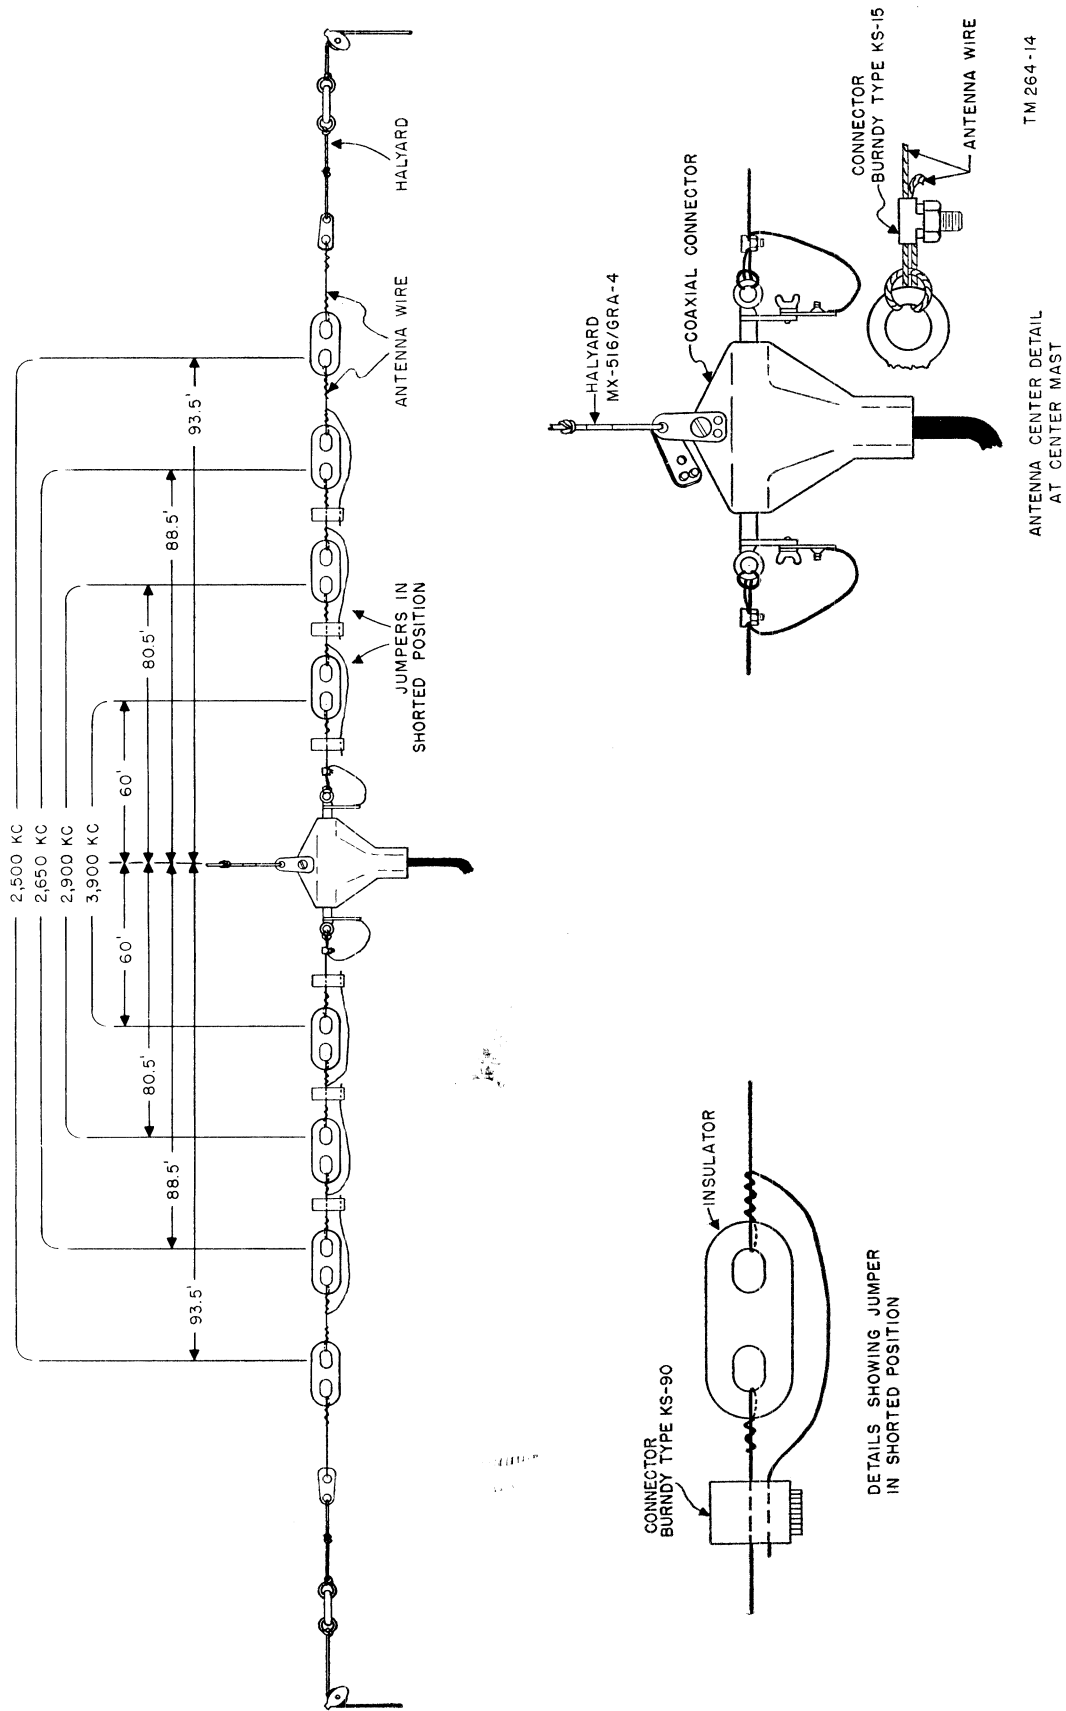

Figure 32. Construction of doublet antenna wire.
c. The antenna wire is made up of sections of Wire W-1 separated by strain insulators. The sections may be connected by jumpers which will allow preselection of various lengths for operation on different frequencies (fig. 32). Compute the lengths desired for the various antenna sections as follows:
- (3) The shortest length antenna must be constructed first. In the case of the above example, the shortest antenna is the 120-foot, 3,900-kc antenna.
- (4) Determine the length of a quarter-wave antenna for the shortest half-wave to be used. In this example a quarter-wave would be $\frac{120}{2} = 60$ feet. Attach one end of the antenna wire to the coaxial cable connector. Attach the other end of the antenna wire to an insulator; make sure that the distance from the center of the coaxial to the end fastened to the insulator is exactly 60 feet as shown in figure 32. Construct the other half of the half-wave antenna in a similar fashion, using the remaining terminal on the coaxial cable connector as a starting point.
- (5) Select the next shortest length of antenna desired, in this case the 161-foot, 2,900-kc antenna. Attach a piece of antenna wire to the unused end of the insulator of the 3,900-kc antenna already constructed. Allow a sufficient length of free wire here which can be used for a jumper connection. Follow the procedure already outlined to arrive at the proper length for a quarter-wave for 2,900 kc: $\frac{161}{2} = 80.5$ feet.
- (6) Each additional lower-frequency antenna is constructed by adding more wire to the antenna already formed. Each antenna length is calculated from the center of the coaxial connector to the end of the antenna being constructed.
- (7) After the various lengths have been determined and constructed, connect the correct jumpers in place as shown in figure 32. Each antenna selected will operate on the fundamental and odd harmonics of the frequency to which it is cut. In the example given in (2), (3), (4), and (5) above, the antenna will be the correct length for the following frequencies: